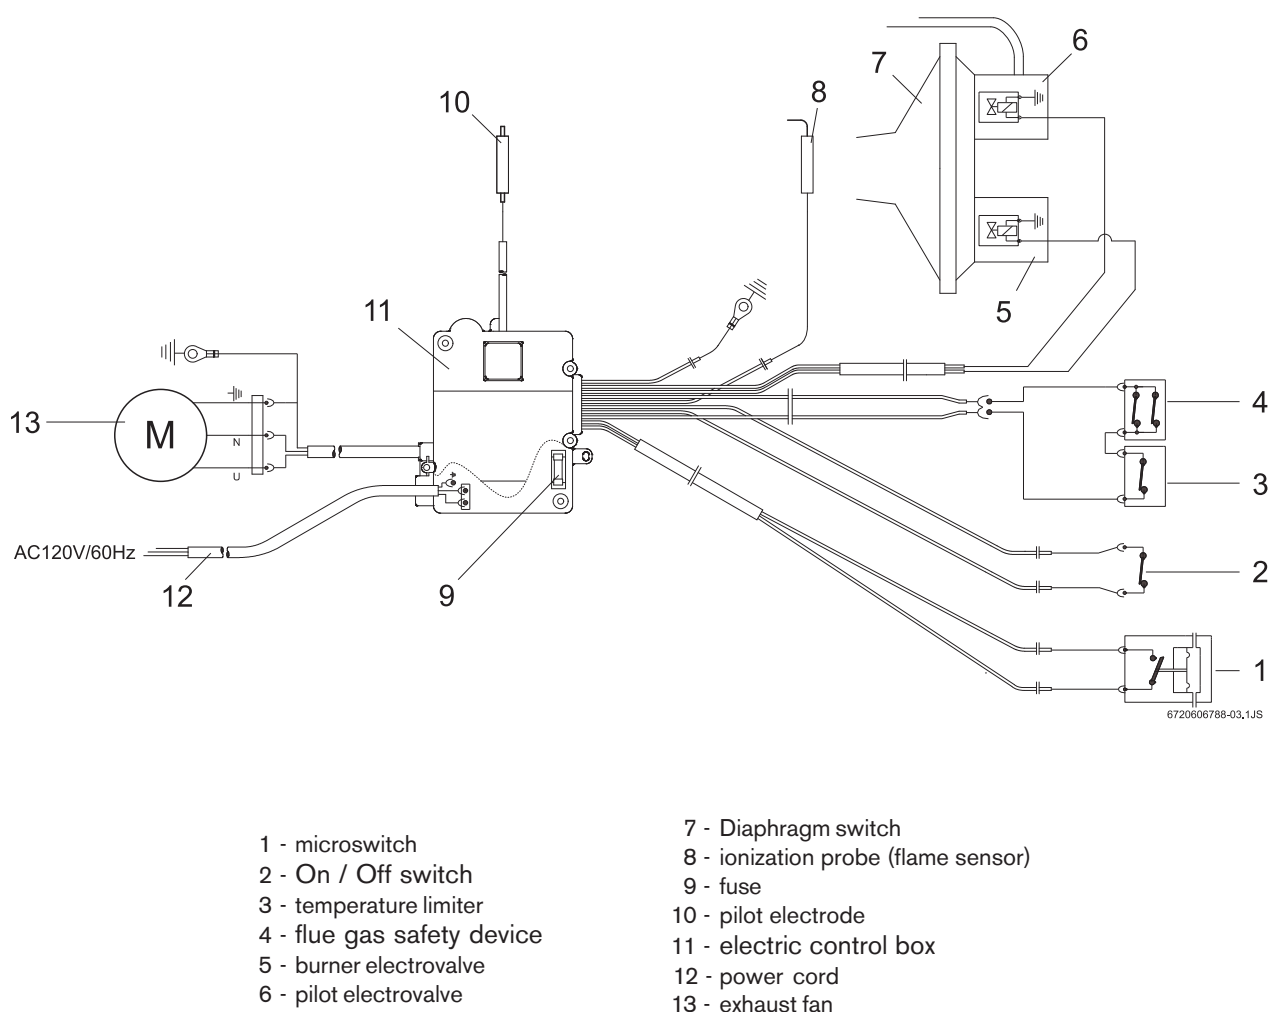

Fig 9: Wiring Diagram for 425 EF
- The heater is wired as shown in the wiring diagram. (Fig 9).
Check the viability of the fuse (see Fig 9 (#9) for location of fuse). Replace if necessary.
5. Pilot electrovalve switch may need to be replaced (see fig 9).
Measure millivoltage at pilot electrovalve (see Fig 9).